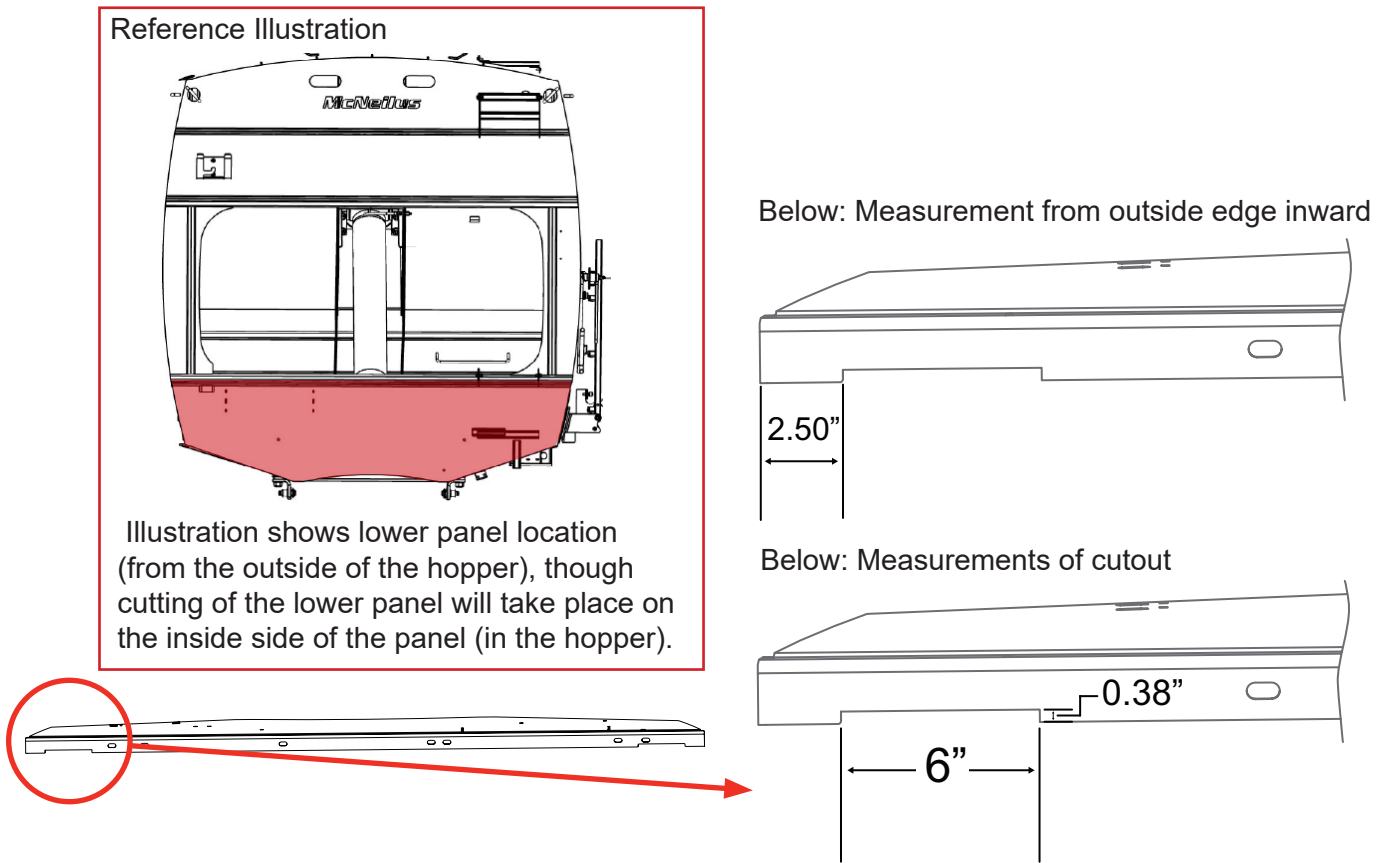

Figure 3
- Figure 3 shows the measurements for the cutout.
10. Using the machinist's marker, on the inside side of the lower panel, measure 2.50" inward from the outside edge and then measure and mark a 6" x 3/8" cutout (as shown in Figure 3). Use the angle projecting from the front wall as a reference point.